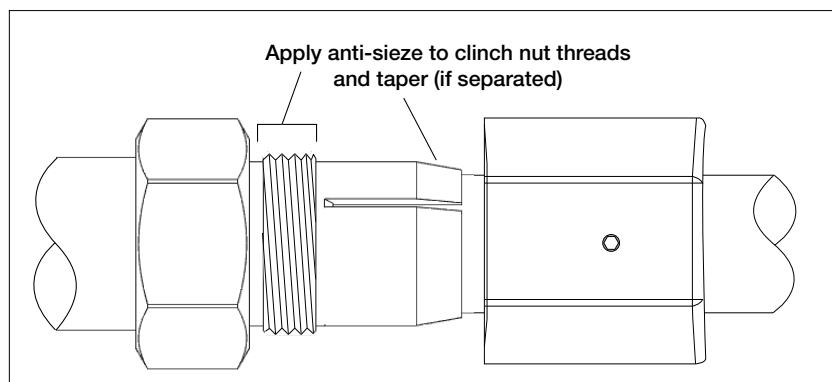

Figure 4. Apply Loctite 8009 to Threads and Tapered Fingers of Clinch Nut
1. Before installing pipe threads apply an adequate amount of fresh, UL classified for DEF, non-setting thread sealant. Loctite 567 sealant is recommended with Loctite 7090 primer for all field serviceable pipe threads. Loctite 8009 is to be used as the DEF compatible anti-seize on the clinch nut threads (see Figure 4).